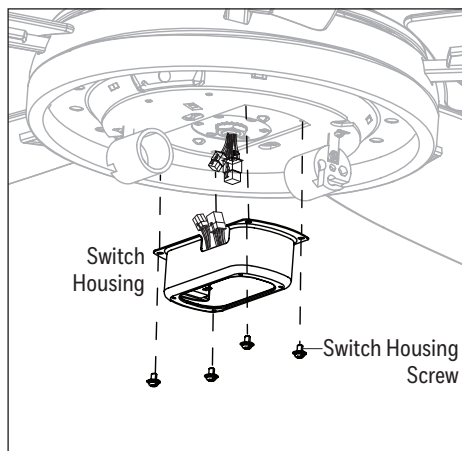

Figure 5.8
8. Remove the four switch housing screws preassembled to the light kit. Secure the switch housing to the light kit by re-installing the switch housing screws. **Note:** The switch housing should be oriented so its notch covers the wiring from the light kit (Figure 5.8).